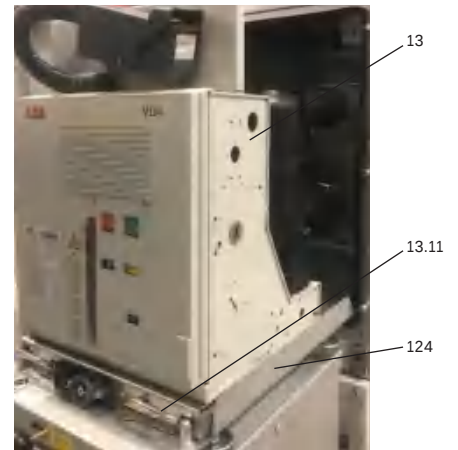

Figure 65 Service truck engaged with the switchgear panel. Withdrawable part released for removal with the handles slid inwards
- Fit the hand crank onto the square spigot of the spindle mechanism after the hole has been opened for it by turning the slide. The slide is turned using a knob (Fig. 65)